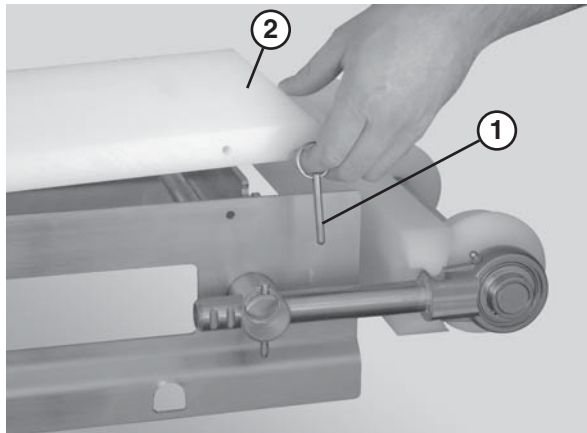

Figure 41
1. Remove the pull pins (Figure 41, item 1) that connect the guide (Figure 41, item 2) to the frame.